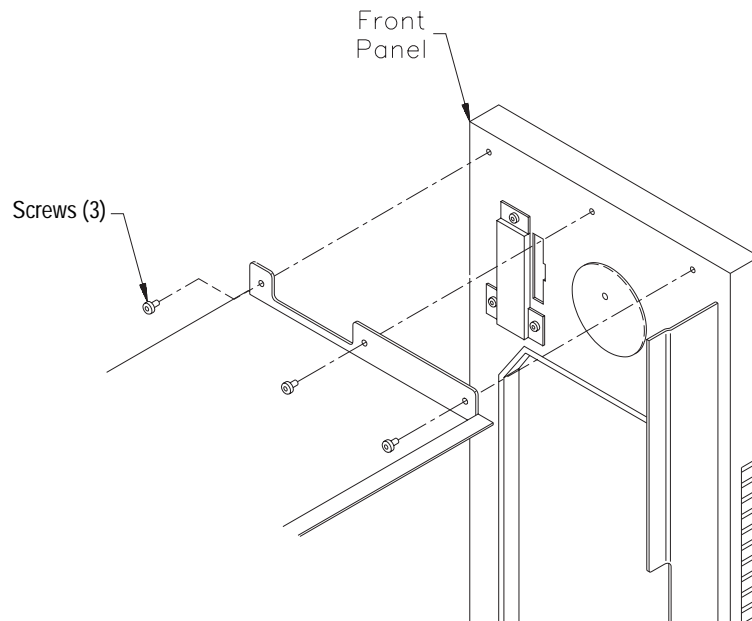

Figure 7 Removing the screws from the standalone front panel
4. Using a T-10 TORX bit, remove the three screws that secure the top of the front panel to the chassis, as shown in Figure 7.